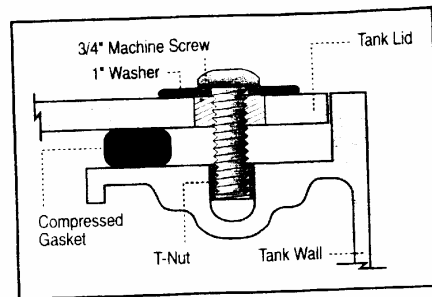

Figure 3
Step 6: Fasten the lid to the tank using the supplied stainless steel 3/4" Machine screws and 1" washers. For optimum results, the lid should be flush with the surrounding lip on the tank as illustrated (refer to *Figure 3*). **It is recommended that non-powered tools be used when securing the lid.**